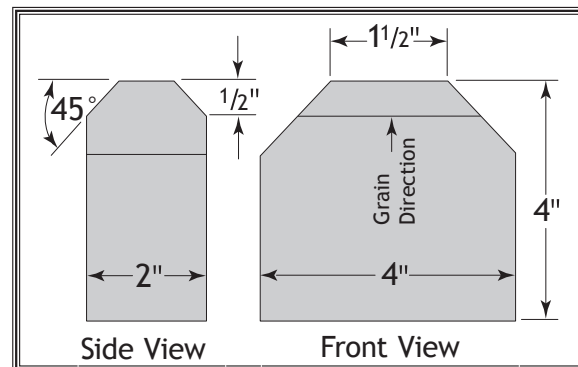

Figure 56. Gauge block dimensions.
3. Make the wooden gauge block shown in **Figure 56**.